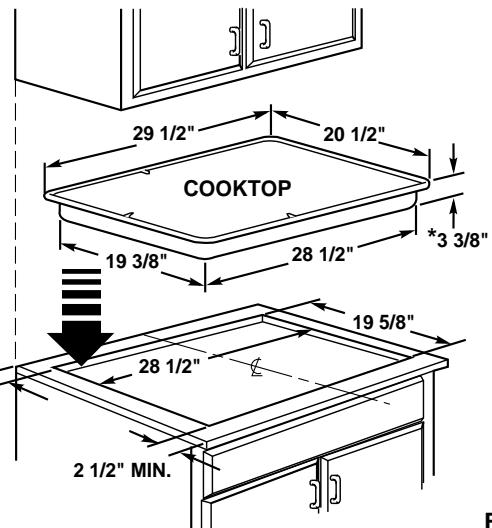

Fig. 2
- To insure accuracy, it is best to make a template when cutting the opening in the counter. See Figure 2 for all necessary dimensions.